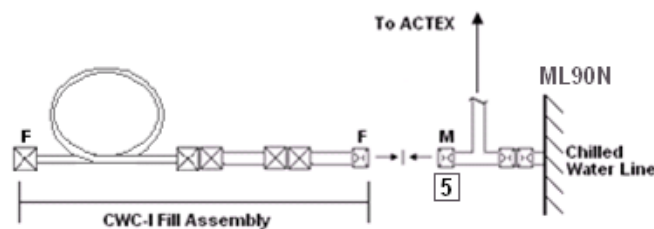

Figure 9-1.- CWC-I Fill Assembly connection at ML90N.
2. Connect R/Y QD Adapter of CWC-I Fill Assembly to free end of Tee attached to Chilled QD (#5) at QD bracket (see fig 9-1)